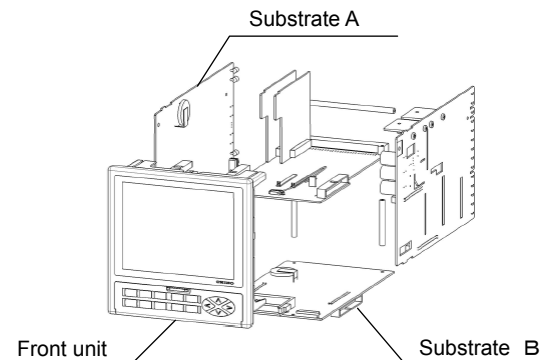

Fig. 15-3-2. Separation of substrates
2) Separation of substrates (Fig.15-3-2.)